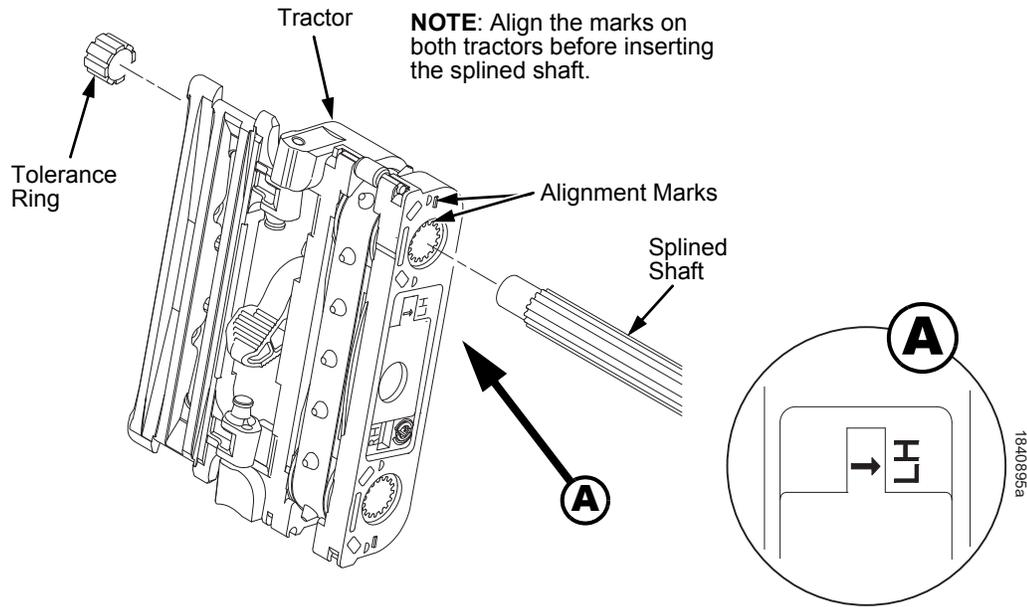

Figure 6. Splined Shaft and Tractor Installation
1. Open the doors on the left and right tractors. Position the splined shaft so the alignment marks are at the top on both tractors. (See Figure 6.)
2. Slide the splined shaft through the right side plate and tractors. Make sure the same spline passes the marked groove on each tractor. (See Figure 6.)
3. Install the tolerance ring on the left end of the splined shaft (page 290, item 5).
4. Insert the tolerance ring lead-in portion into the sealed ball bearing in the left tractor shaft plate (page 290, items 3, 5, and 6) while sliding the ball bearing into the right side plate. Push the splined shaft to the left until the flange on the ball bearing is in solid contact with the right side plate. The splined shaft will protrude about 1/16 inch (1.6mm) from the ball bearing.
5. Install the right tractor shaft plate and screw (page 290, items 7 and 8) by first sliding the upper “fingers” up and against the flange on the ball bearing, then sliding the rectangular cutout over the support shaft end, then snapping the U-shaped “spring” behind the tab on the right side plate.